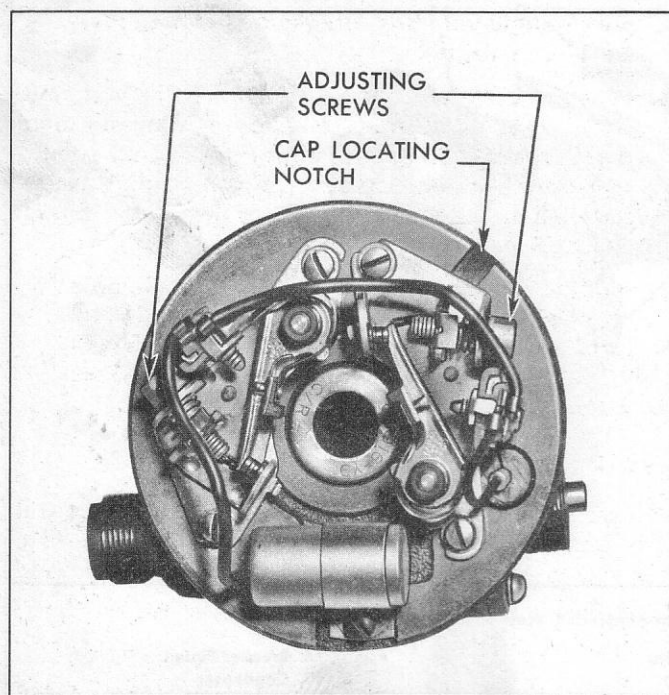

Fig. 4—Contact Points and Leads Installed
7. Install contact point sets and condenser to breaker plate. Contact point pilot holes must engage matching dowels in breaker plate. Connect leads as shown in Figure 4.